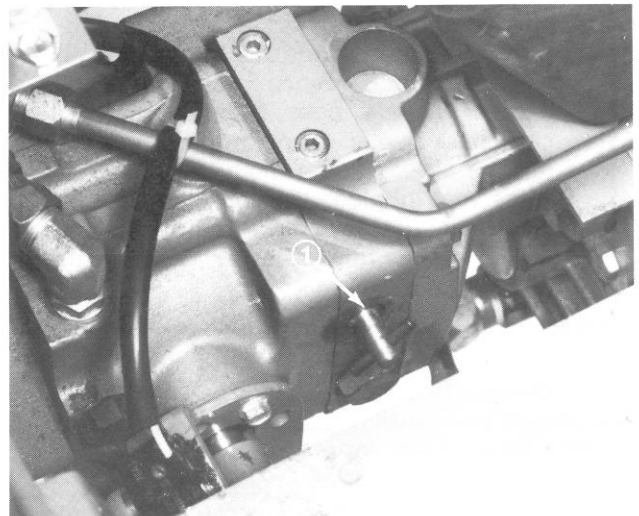

Figure 11
1. Reach in under seat and rotate by-pass valve (Fig. 11) counterclockwise 1/2 to 1 turn. Opening the valve opens an internal passage in the pump, thereby bypassing transmission oil. Because fluid is by-passed, the machine can be pushed without damaging the transmission.